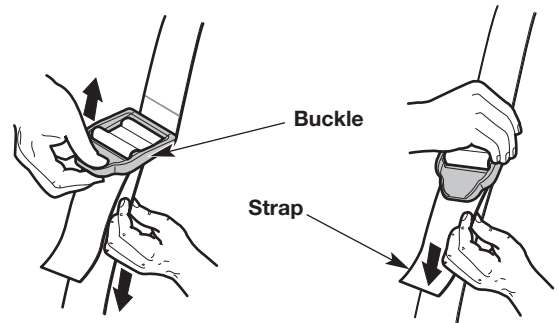

Fig. 9
4. Adjust the shoulder strap to fit the operator (Fig. 9). Pull the buckle up to loosen the shoulder strap. Pull the strap down to tighten the shoulder strap.